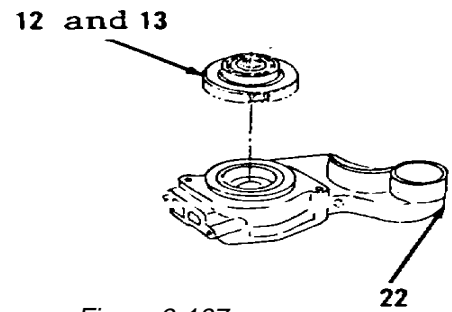

Figure 3-187.
11. Using suitable puller to push against 7/16-14NC bolt, remove items 12 and 13 as an assembly from housing (22, Figure 3-187).